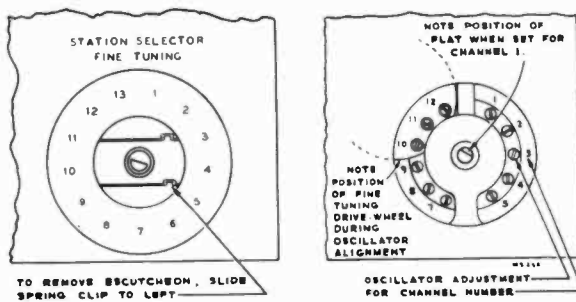

Figure 8—R-F Oscillator Adjustments
**CHECK OF R-F OSCILLATOR ADJUSTMENTS**—With a crystal calibrated test oscillator or heterodyne frequency meter, check to see if the receiver r-f oscillator is adjusted to the proper frequency on all channels. If adjustments are required, these should be made by the method outlined in the alignment procedure on page 10. The adjustments for channels 1 through 5 and 7 through 12 are available from the front of the cabinet by removing the station selector escutcheon as shown in Figure 8. Adjustments for channels 6 and 13 are under the chassis.